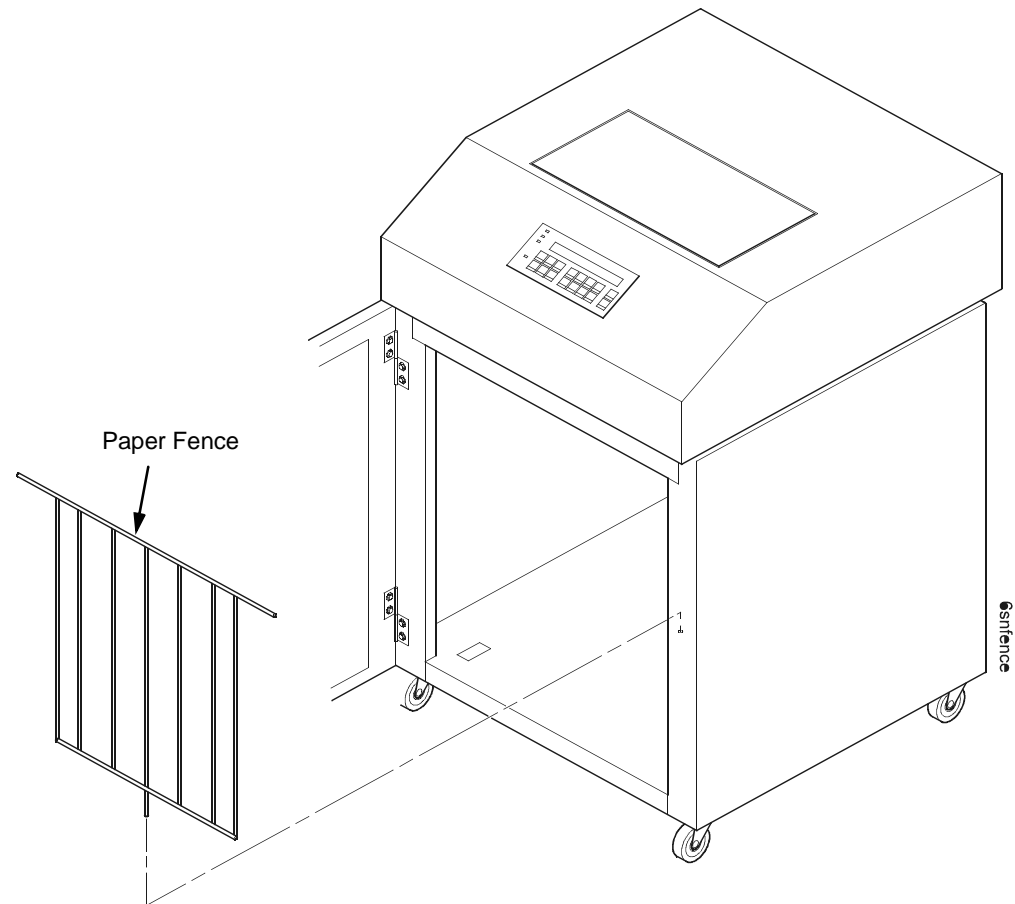

Figure 77. This figure shows how to remove the paper fence.
5. Cut the tie wrap (if present) and remove the paper fence. (Figure 77.)